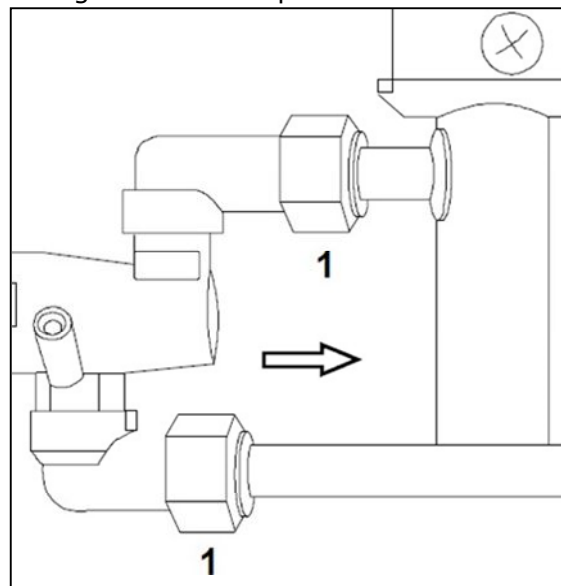

FIG.19
- Remove the valve from the junction fittings to the gas pipes (FIG.19-Ref.1).